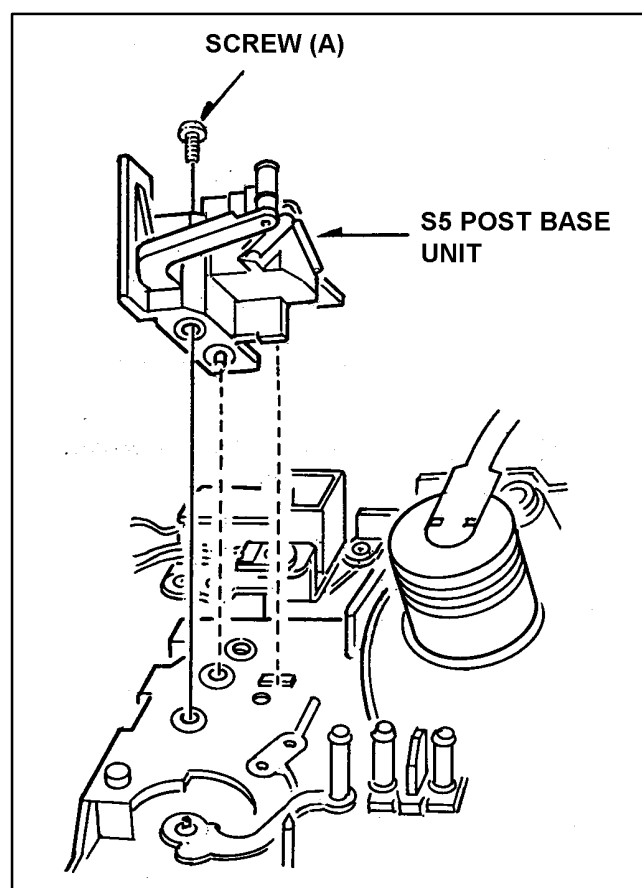

Figure 1-17
1. Unscrew the screw (A) and remove the S5 Post Base Unit as shown in Figure 1-17.
Note: Be careful the S5 Post Base Unit is install to mech. chassis as shown in Figure 1-17.